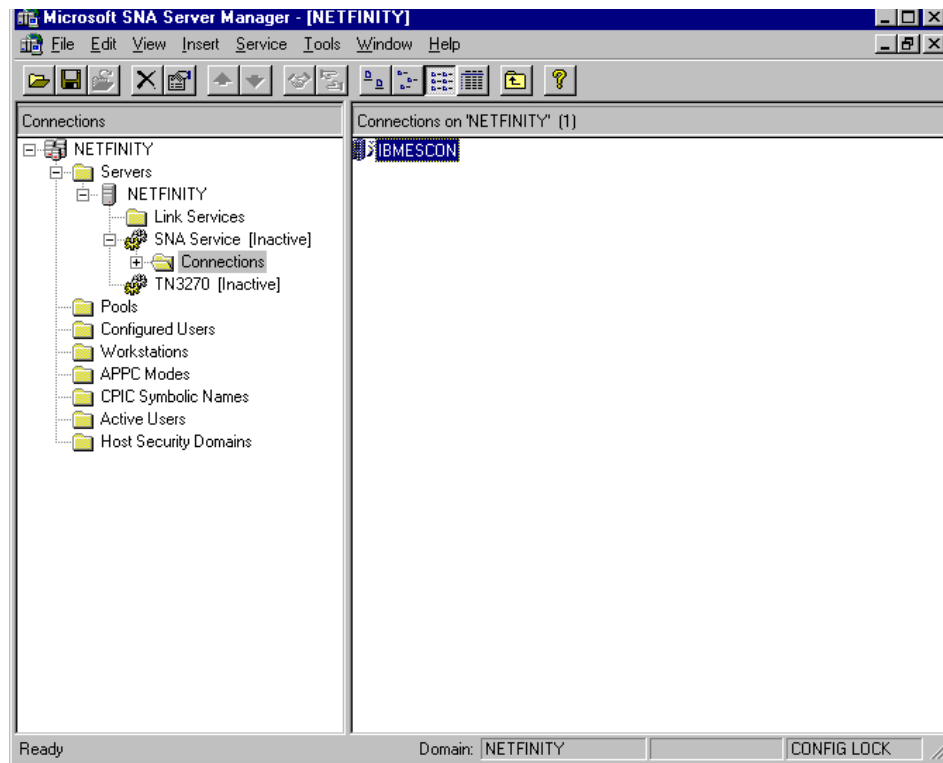

Figure 8-16. Configured Connection
7. When you return to the SNA Server Manager dialog box, the new Connection will be displayed (See Figure 8-16).